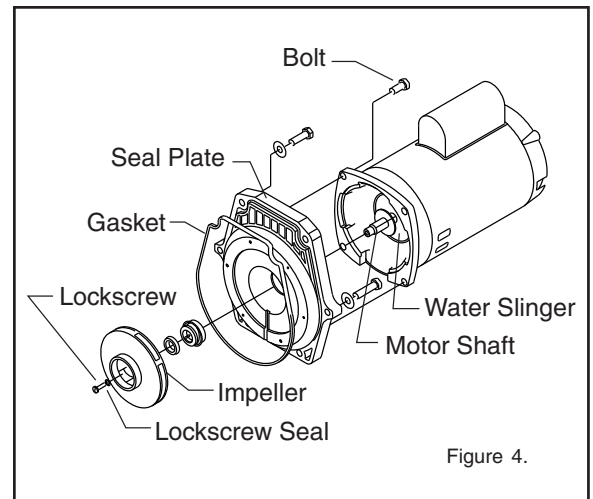

Figure 4.
B. Pump Reassembly/Seal Replacement; see Figure 4.